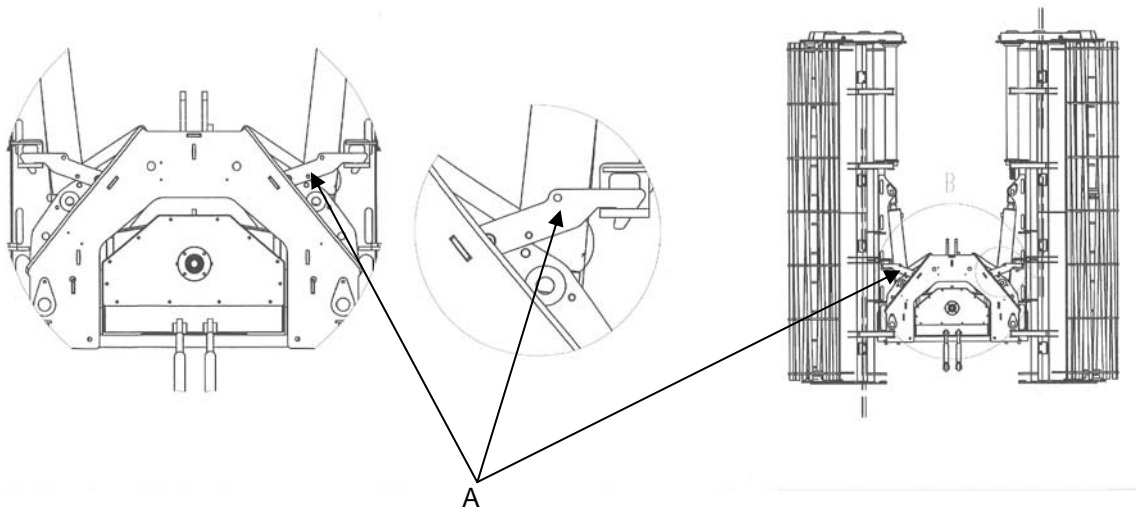

Fig. 10
- With the hydraulic folding system connected to a double acting valve, press the lever until the machine goes to vertical and the safety hooks A are engaged (fig. 10)